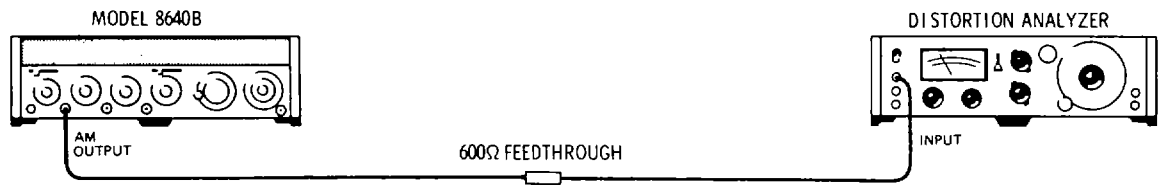

Figure 4-17. Internal Modulation Oscillator Distortion Test Setup.
- 1. Connect equipment as shown in Figure 4-17 after setting Signal Generator's controls as follows: